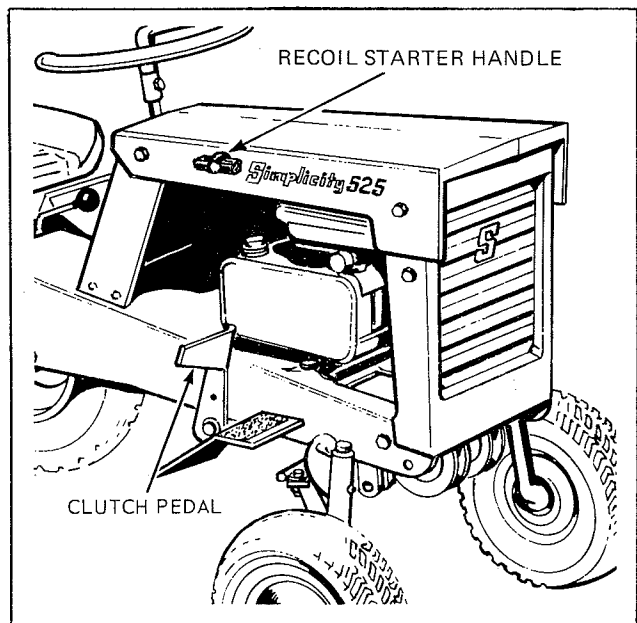
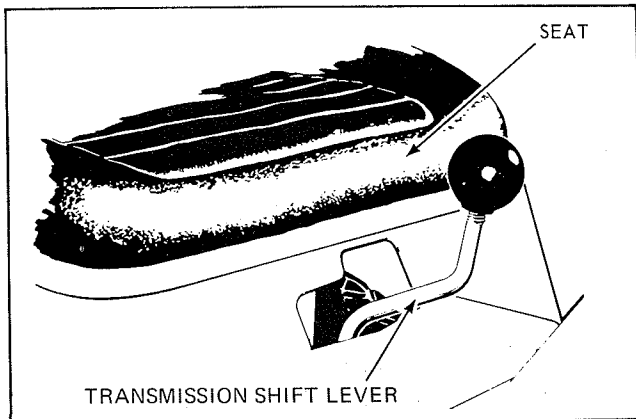

Figure 2
Figure 3
Operation of clutch and brake is regulated by clutch & brake pedal shown in Figure 2.
2. Depress the clutch pedal Figure 2 with the right foot.
4. Grasp the handle of the recoil starter Figure 2 with the right hand and pull sharply toward you. If engine starts on first pull, slowly move the throttle lever to the FAST position as the engine warms up. Should the engine fail to start on the first or second pull move the throttle lever to the FAST position to avoid flooding the engine with fuel. When re-starting a warm engine, it should not be necessary to use the choke.
Travel direction of the tractor is regulated by the position of the transmission shift lever, Figure 3. Merely depress the clutch pedal, Figure 2 with the right foot, and with the heel of your hand, move the shift lever into the desired 1st, 2nd, 3rd or reverse position. Slowly release the clutch lever and move off, regulating speed of travel by the position of the throttle lever.